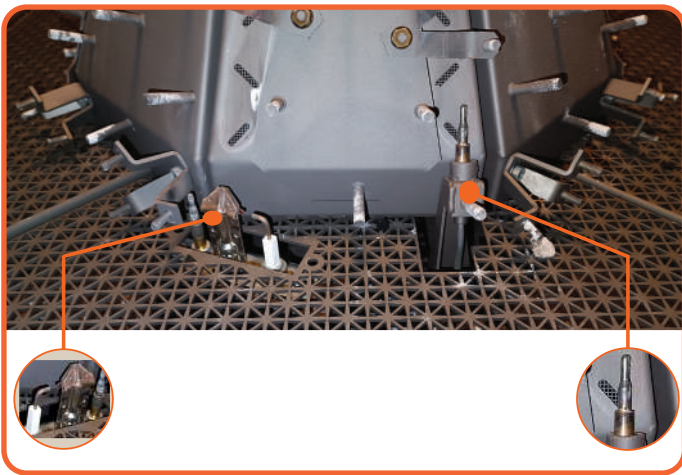

Figure 10.2 | Locations pilot and thermocouple
Step 1: See Figure 10.2
On Figure 10.2 the empty burner can be seen with indications of the pilot and thermocouple locations. Make sure these are not blocked by decoation materials at all times.